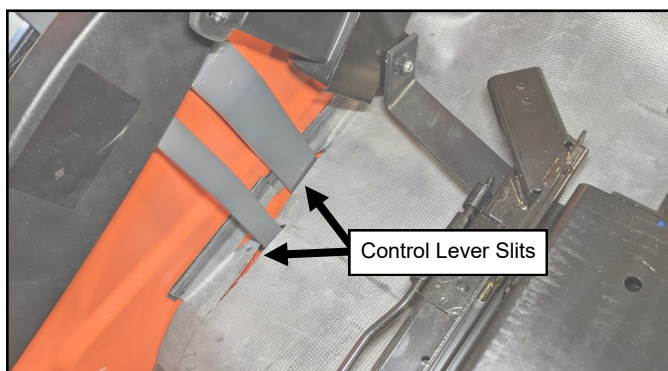

Fig. 19.6 (Position Right Side)
- 19.6** Work the filler down underneath the right side seat belt and around the right side control levers. See Figure 19.6. Do not stick Velcro yet.